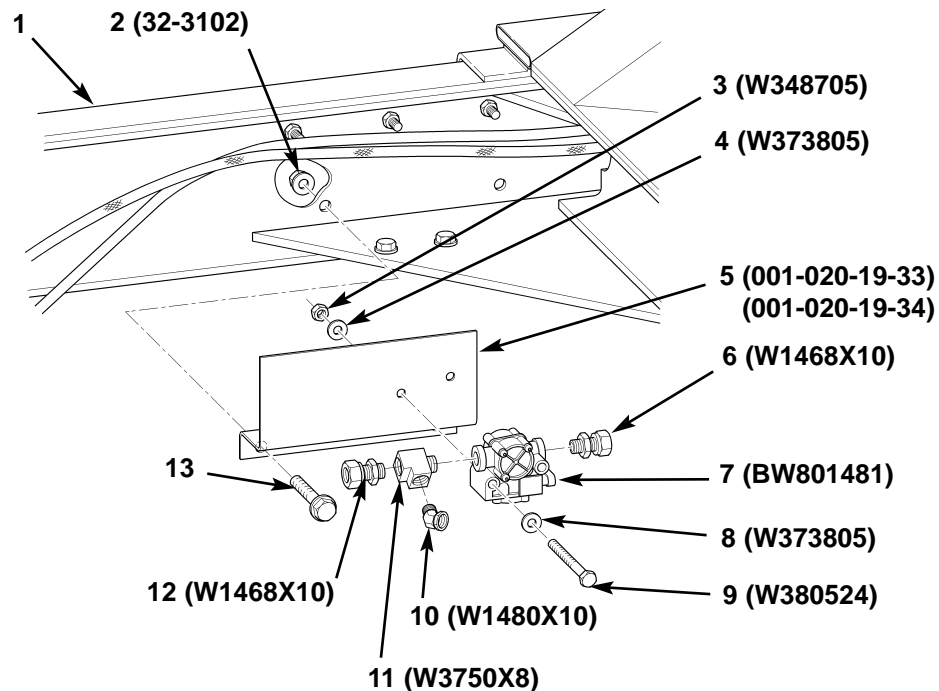

Figure 38. Installing Rear Modulators.
1. Install new adapter (figure 38, item 6) on inlet of new modulator (figure 38, item 7), and install new tee (figure 38, item 11) on outlet of modulator (figure 38, item 7). Position tee (figure 38, item 11) as shown.
2. Install new adapter (figure 38, item 12) and new elbow (figure 38, item 10) on tee (figure 38, item 11). Position elbow (figure 38, item 10) as shown.
3. Install modulator (figure 38, item 7) on new driver-side modulator mount (figure 38, item 5) with two new washers (figure 38, item 8), new bolts (figure 38, item 9), new washers (figure 38, item 4), and new locknuts (figure 38, item 3).
4. Install driver-side modulator mount (figure 38, item 5) on left frame rail (figure 38, item 1) with two bolts (figure 38, item 13) and new locknuts (figure 38, item 2).
5. Perform steps 1 through 4 for installation of opposite new modulator (figure 38, item 7) on right frame rail.